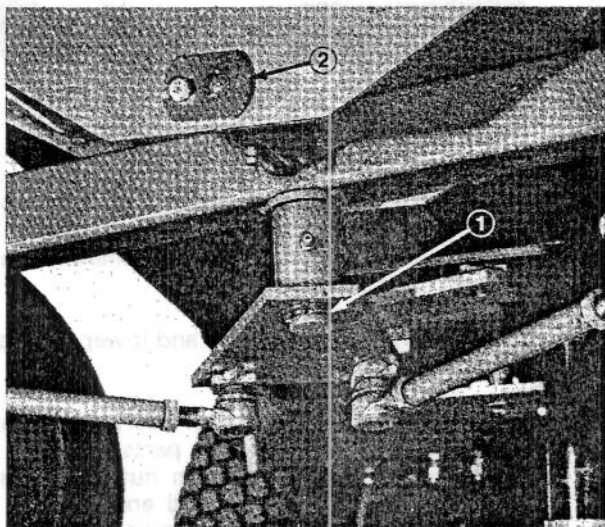

Figure 56
3. Remove snap ring and flatwasher and slide steering plate off mounting pin on bottom of axle (Fig. 56).
6. Slide steering plate onto mounting pin on bottom of rear axle. Secure plate in place with flatwasher and snap ring (Fig. 56).